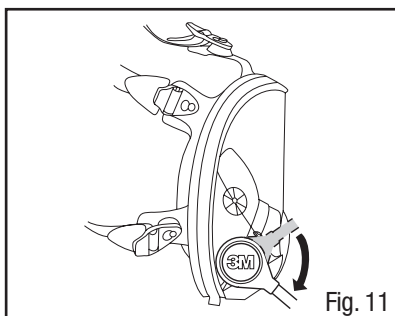

Fig. 11
2. Twist each branch of breathing tube clockwise a quarter turn until it is firmly seated in the bayonet and cannot be turned further (Fig. 11 and 12). Do not forcibly overturn as the bayonet could be damaged. SA-1500/SA-2500 shown.